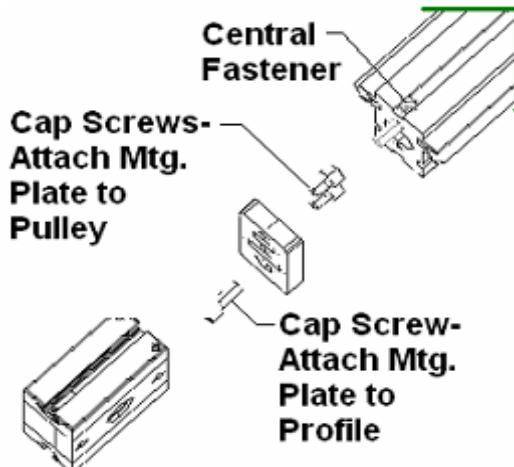

Figure 3
2) Pulley housing can now be removed from the track profile by releasing the central fastener (**6'6 o 'Cnqp'y t gpej 't gs wkt gf** +or cap screws. (See figure 3)